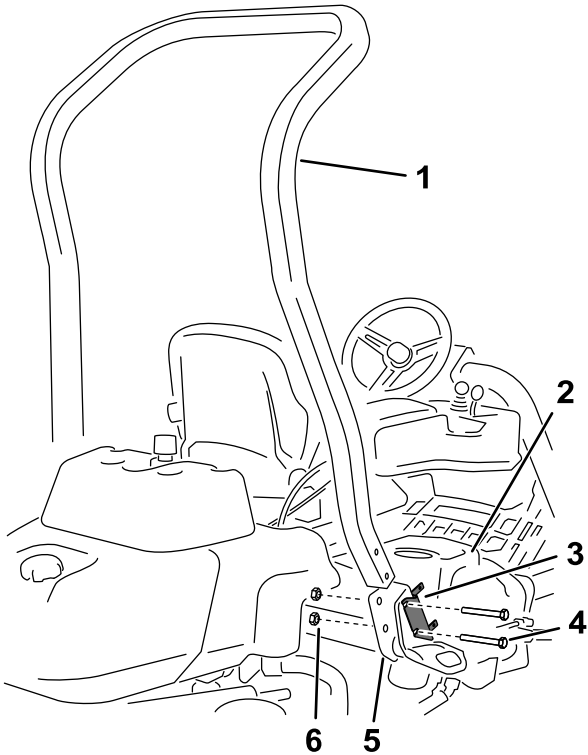

Figure 3
- 4. Remove the 2 bolts that secure the fuse-block bracket to the ROPS bracket as shown in Figure 3.